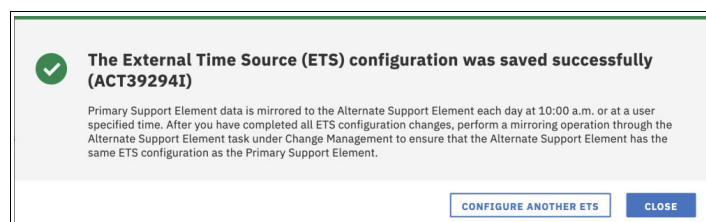

Figure 4-36 ETS successful configuration message
8. View the ETS configuration success message (Figure 4-36) and click **CLOSE**.